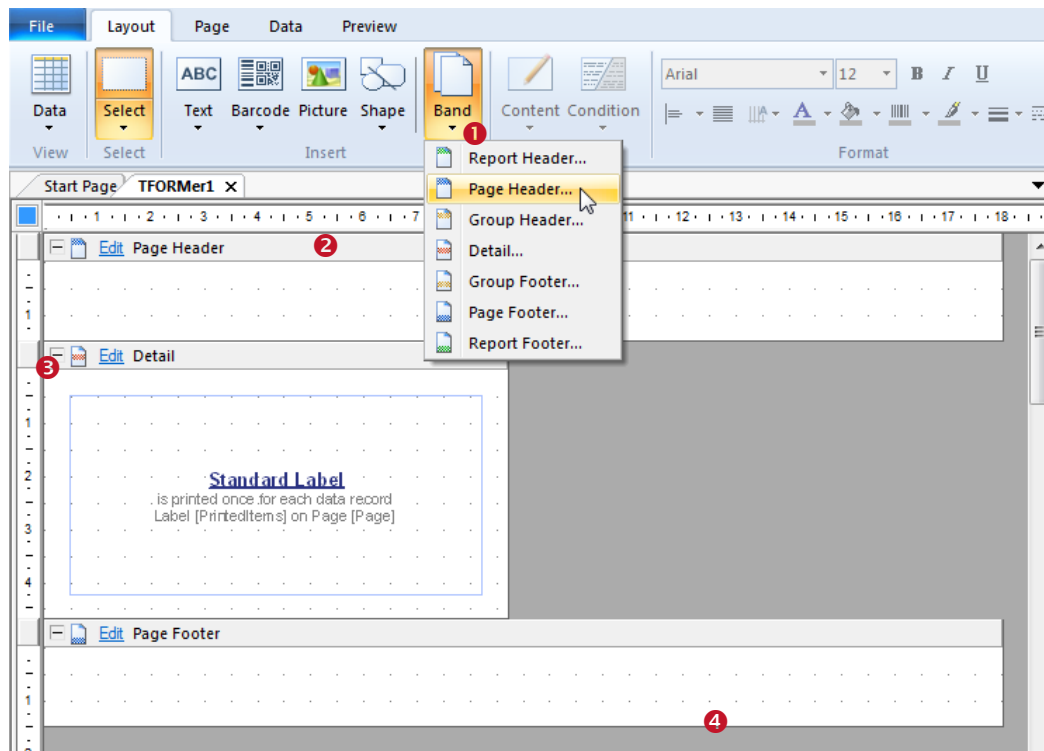

Figure 36: Insert a Band
For reports the height of bands is freely adjustable. It can be changed with the mouse by clicking and dragging the lower band margins (see Figure 36, ④). Alternatively you can adjust the height in the group “*Position*” in the properties window.